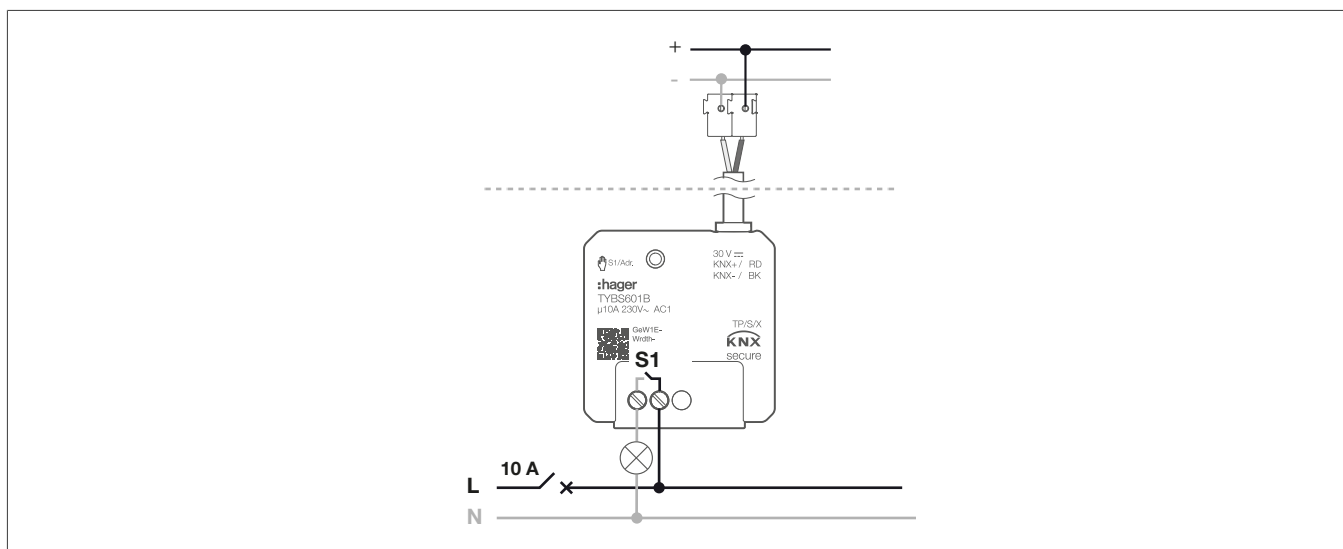

Fig. 3: Connection diagram TYBS601B
- Connect the device according to the connection diagram (Fig. 3).